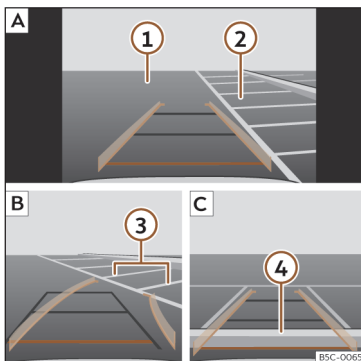

Fig. 165 Display on the infotainment system screen: parking with the reverse assistant.
Key to >>> **Fig. 165:**
- Stop the vehicle in front of the parking space >>> **Fig. 165 2 A**.